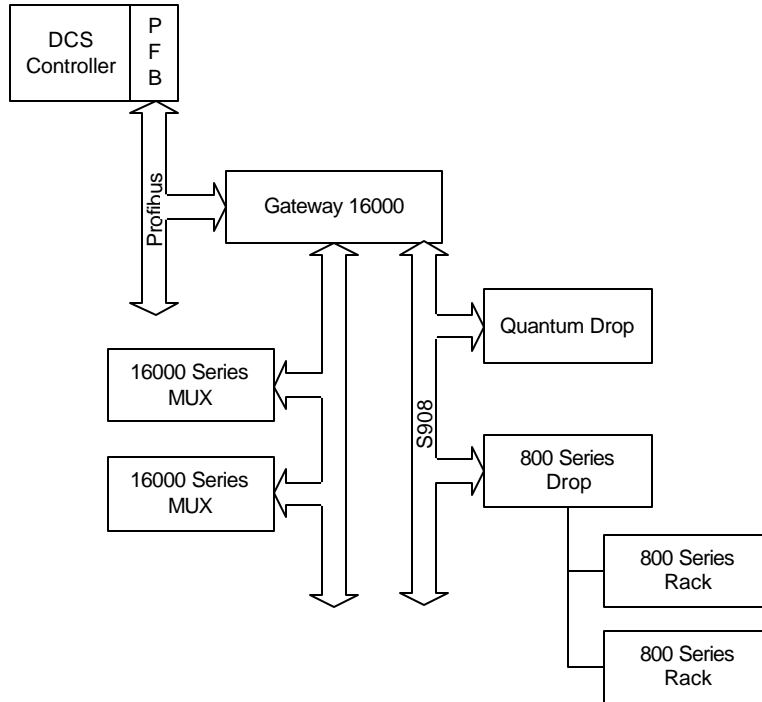
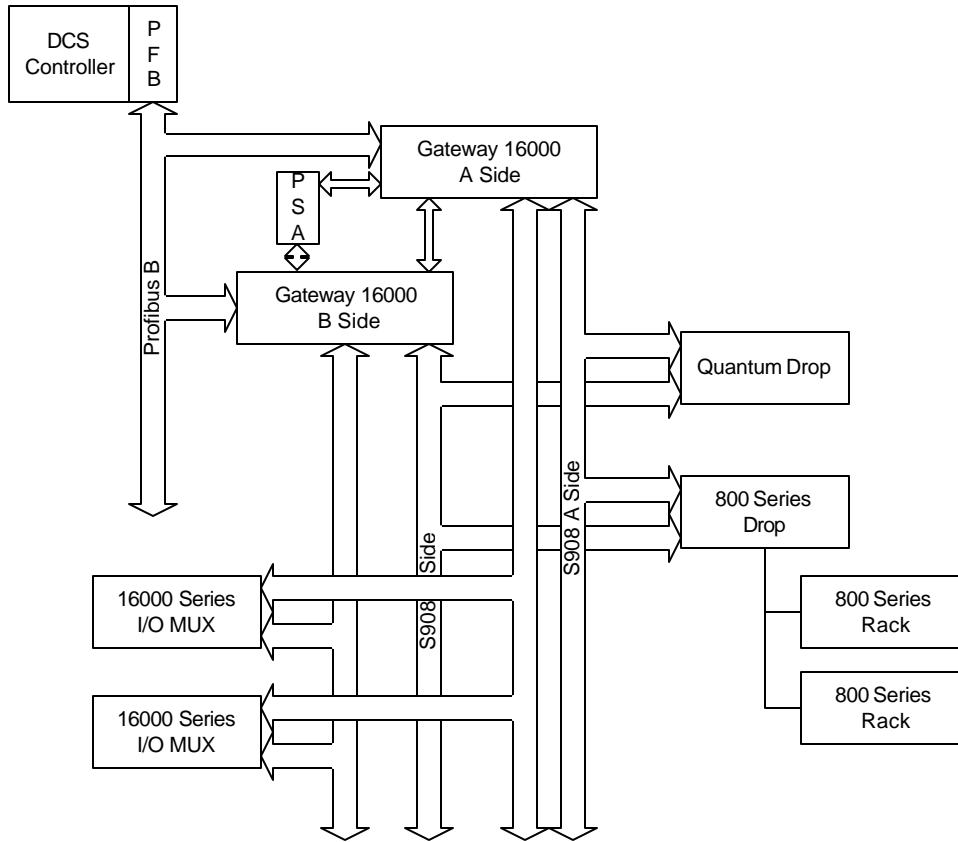
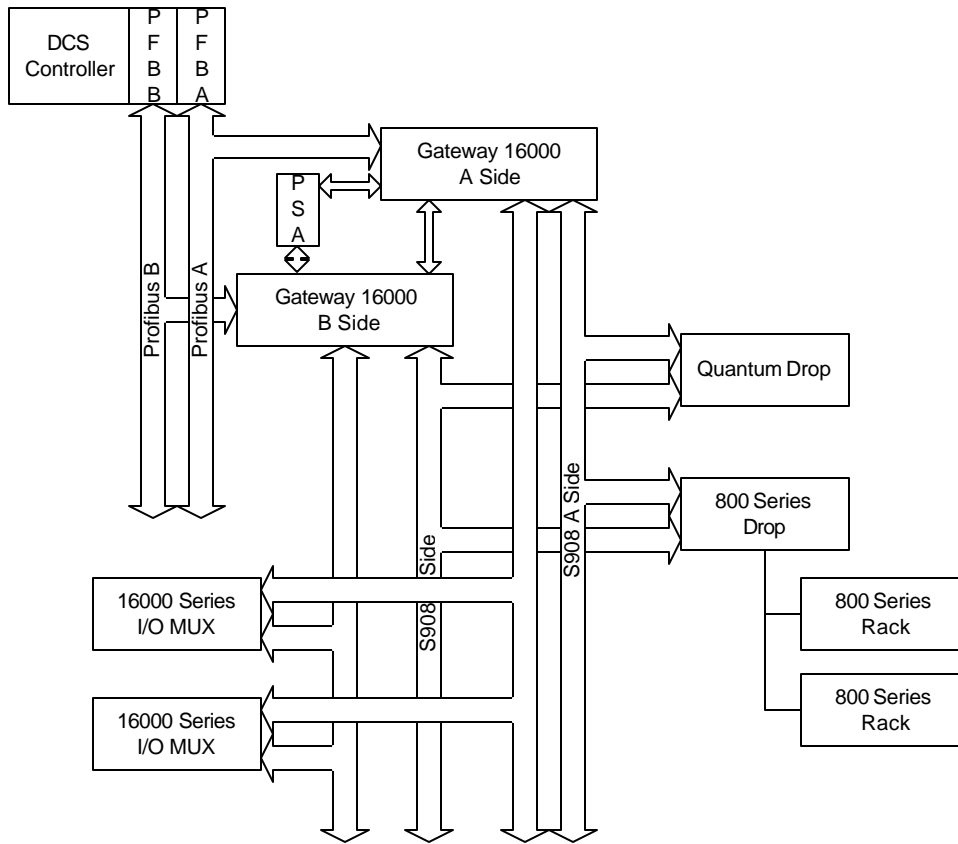

Figure 4 Typical Non-redundant Installation
Figure 5 Typical Redundant Installation with Simplex Profibus Cabling
Figure 6 Typical Redundant Installation with Duplex Profibus Cabling
- Profibus: The Profibus cable from the Control System Host connects to this connector. For redundant Simplex installations, a single Profibus cable connects to both sides of the GATEWAY 16000 and to a single Profibus interface in the control system. For redundant Duplex configurations, each side of the GATEWAY 16000 is connected to a separate Profibus cable to separate Profibus interfaces in the control system host. Care must be taken to ensure that the “A” side Profibus cable is connected to the “A” side GATEWAY 16000. Refer to Figure 4, Figure 5 and Figure 6 for typical cabling and installation options.